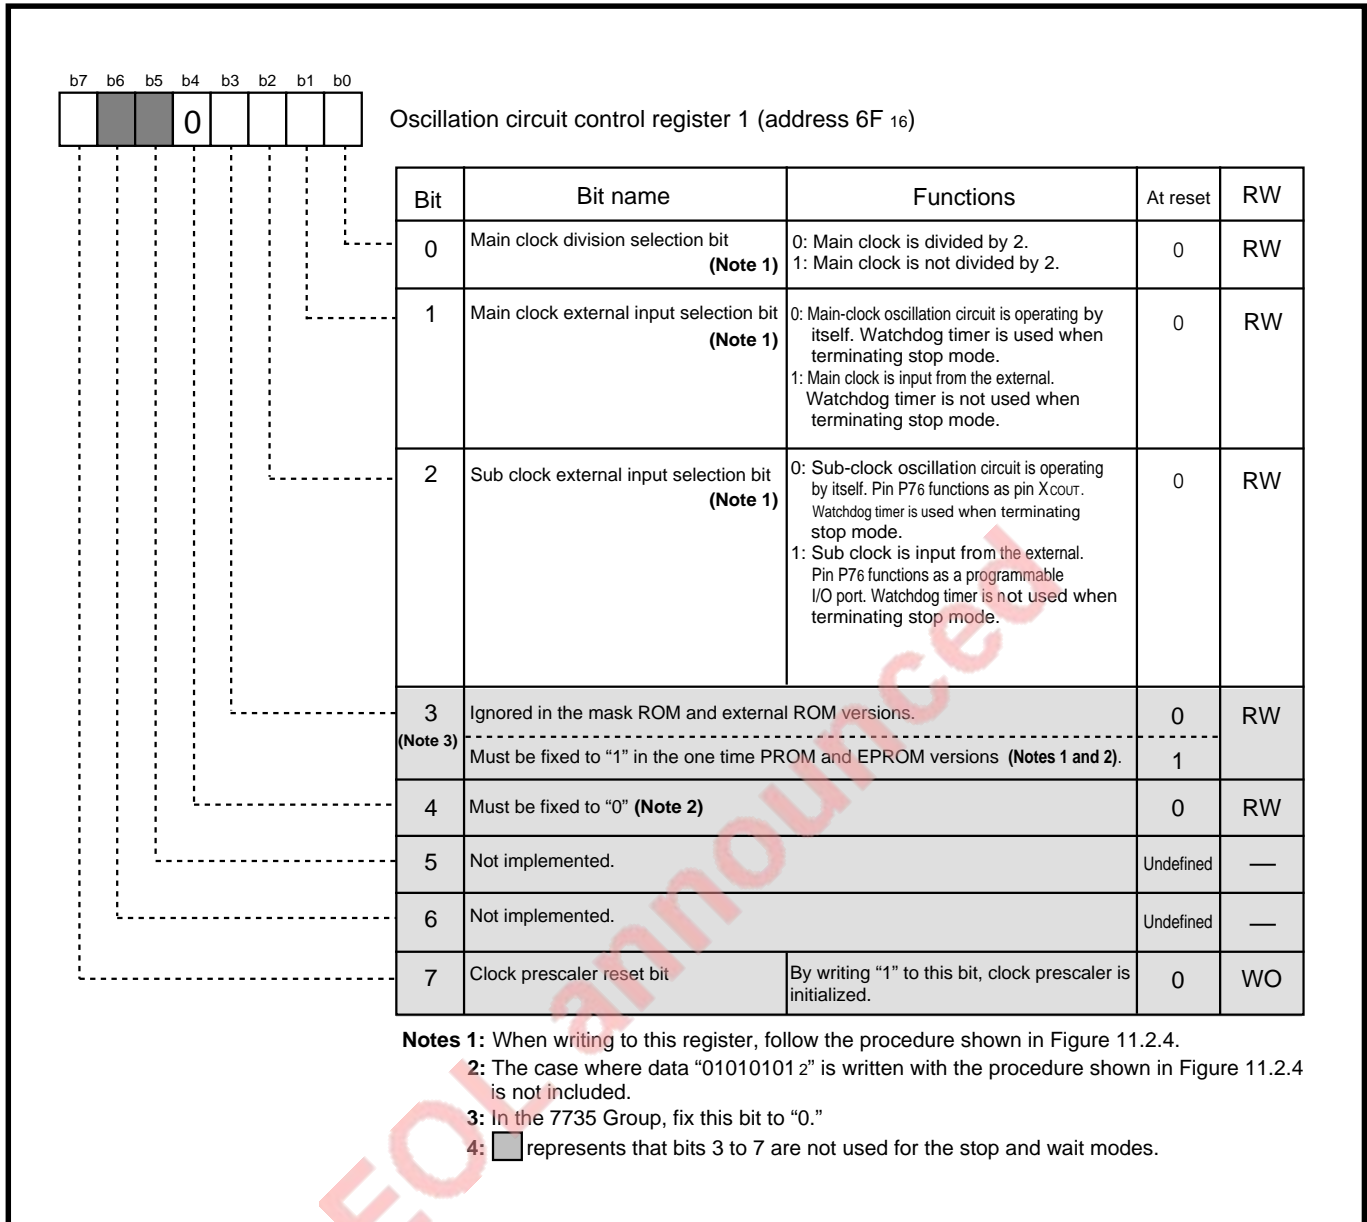

Fig. 11.2.3 Structure of oscillation circuit control register 1
(Refer to **Figure 11.2.3**, sections “**11.3.2 Stop mode terminating operation by interrupt request occurrence (when using watchdog timer)**” and “**11.3.3 Stop mode terminating operation by interrupt request occurrence (when not using watchdog timer).**”
- When the system clock is the main clock or the main clock divided by 8, set the main clock external input selection bit (bit 1 at address 6F16; Refer to **Figure 11.2.3.**) to "0." When the system clock is the sub clock, set the sub clock external input selection bit (bit 2 at address 6F16) to "0."
- When the system clock is the main clock or the main clock divided by 8, set the main clock external input selection bit (bit 1 at address 6F16; Refer to **Figure 11.2.3.**) to "1." When the system clock is the sub clock, set the sub clock external input selection bit (bit 2 at address 6F16) to "1."